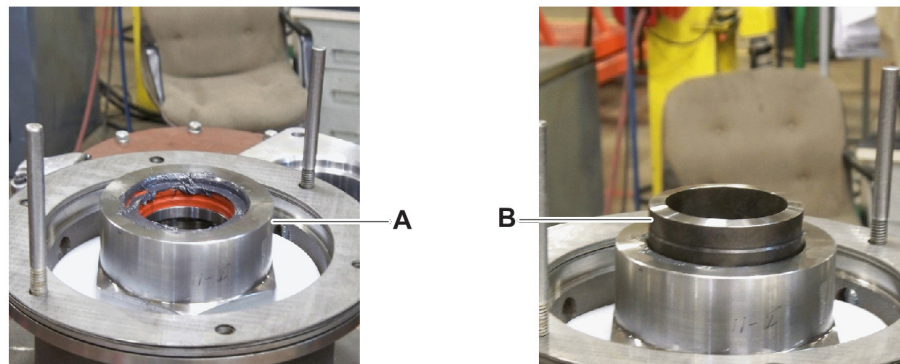

Figure 12
16. Insert the wear bushing (Figure 12, item B) inside of the spindle cap (item A). (When the swivel cover is mounted, the wear bushing is between the two swivel packings.)